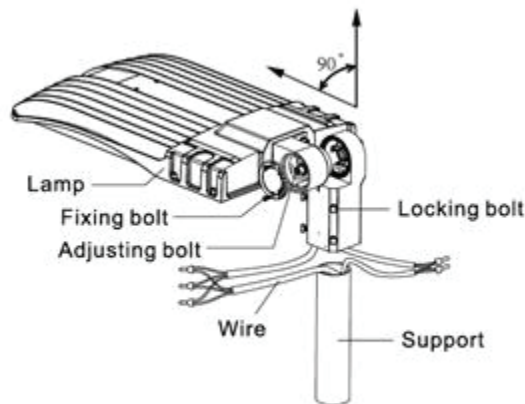

Figure 1-1
- Loosen the 4 locking bolts on the slip fitter, connect the wire correctly and put the wire into pole. Then fasten the locking bolts between slip fitter and the pole (Figure 1-1)
- Loosen the fixing bolts and adjusting bolts, align the fixture to required angle. Tighten adjusting bolt and fixing bolts after the angle is confirmed. (Figure 1-1)